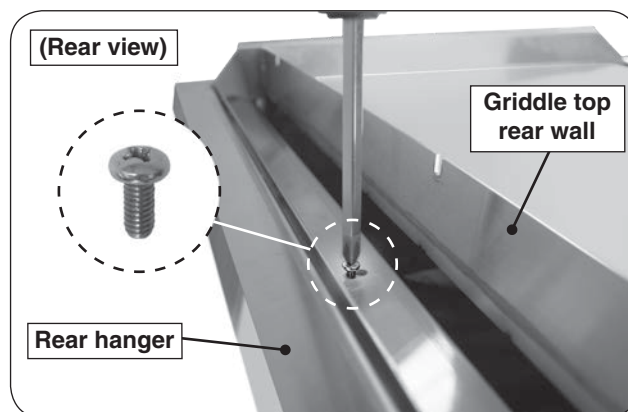

Fig. 22-2 Secure griddle top
2. Secure the griddle top by fastening the provided screw into the screw hole located on the rear of the griddle top (see Fig. 22-2).